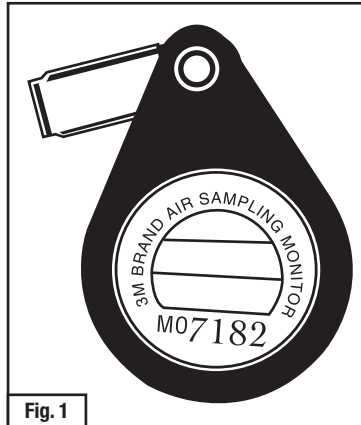

Fig. 1
3. Record the date, employee or area ID and sampling start time on the monitor label (Fig. 1). **DO NOT REMOVE WHITE FILM AND PLASTIC RING.**